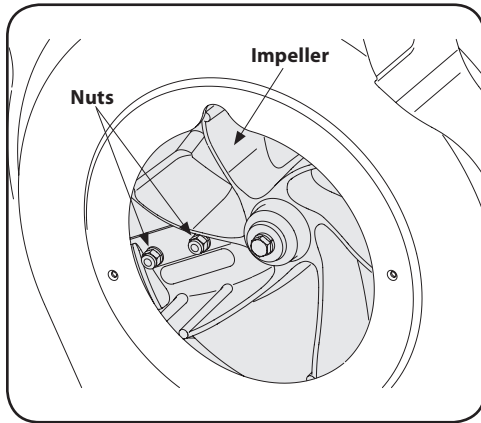

Figure 7-12
15. The nuts on the flat head cap screws can be reached from underneath using a 1/2-inch socket, universal, and extension. See Figure 7-12.